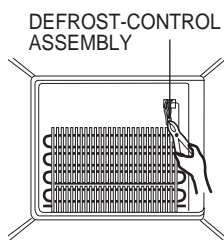

Figure 11
2. Separate the connector with the Defrost Control assembly and replace the Defrost Control assembly after cutting the Tie Wrap. (Figure 11)